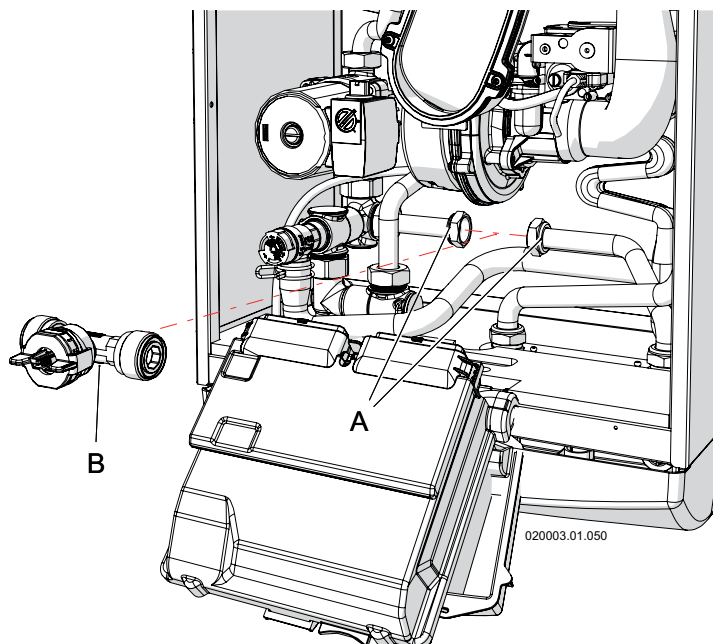

Figure 8-9 - Removing the flow meter
Proceed as follows, making reference to figure 8-9:
- 4.- disconnect the cables from the flow meter (detail "B" in figure 8-9);